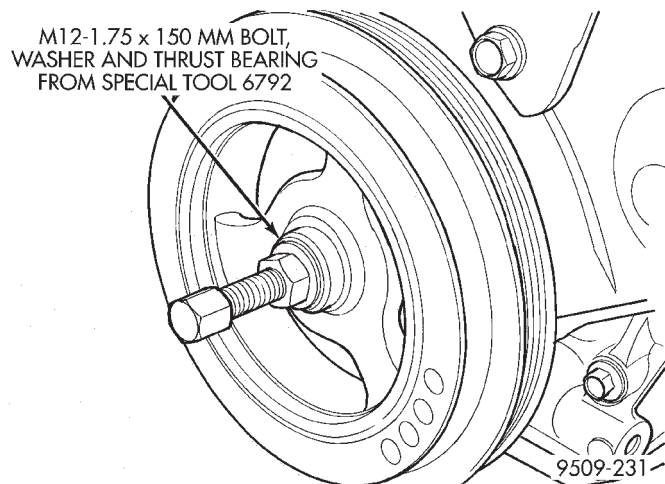

Fig. 64 Crankshaft Damper—Installation
(13) Install crankshaft damper using M12-1.75 x 150 mm bolt, washer, thrust bearing and nut from Special Tool 6792. Install crankshaft damper bolt and tighten to 142 N·m (105 ft. lbs.) (Fig. 64).
(14) Install accessory drive belts. Refer to Group 07, Cooling System for procedures.
(15) Raise vehicle on hoist and install right inner splash shield.
(16) Lower vehicle and perform camshaft and crankshaft timing relearn procedure as follows: